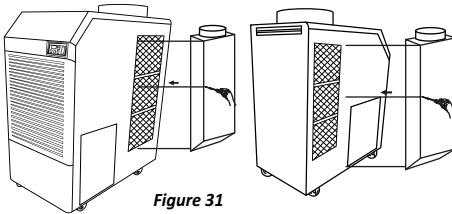

Figure 31
3. Use screws (enclosed inside of box with air adapter) to install the adapter on the air conditioner as shown in Figure 31.